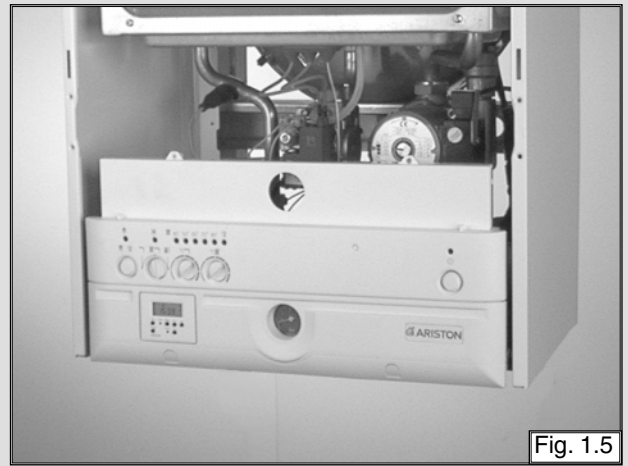

Fig. 1.5
2. Push the two side panels outward slightly (fig. 1.5);